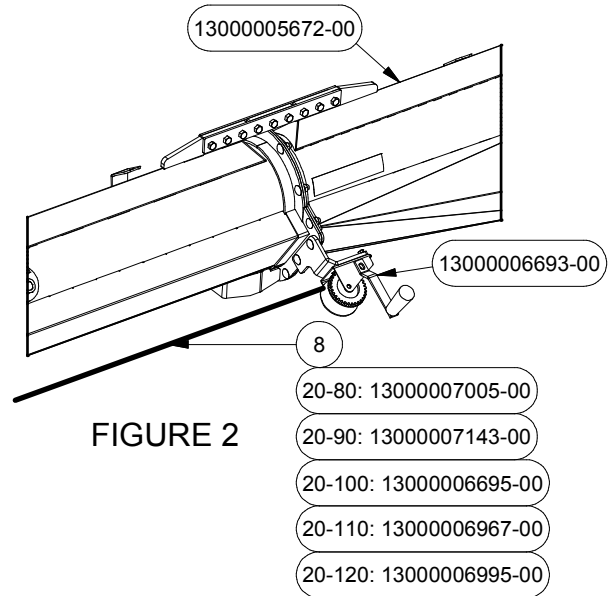
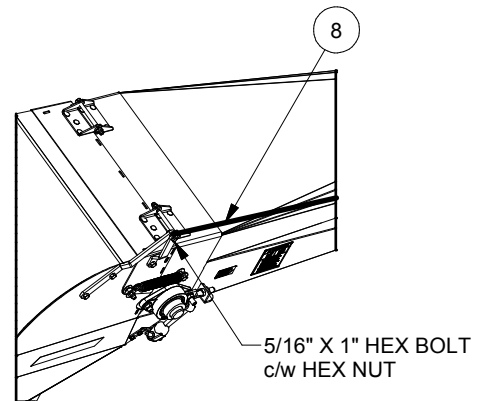

FIGURE 2
FIGURE 3
- Wrap the Cable (Item 8) to the Winch PN# 6693 as shown in Figure 2. Loop the other end to the Bolt located at the Arms and clamp it using Cable Clamps PN# 32014109 as shown in Figure 3. Cable can be found in a Decal Hardware Box PN# 7007/7144/6696/6697/6994.